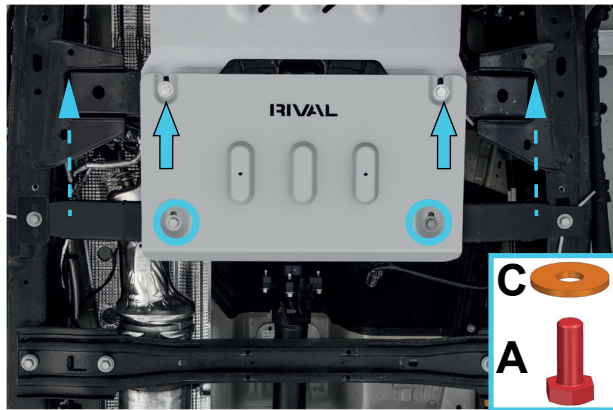

Fig. 11
8. Slide transfer case skid plate (item 1) over the previously installed M10x35 bolts and M10 washers installed in step 7. Slide the transfer case skid plate as far forward as possible and secure the rear of the skid plate to the previously installed crossmember using M10x35 bolts (item A) and M10 washers (item C) as shown in fig.11.